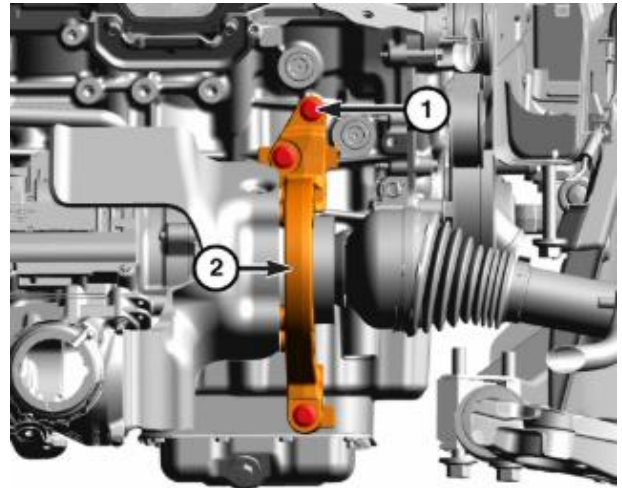

Figure 34 – PTU Support Bracket
13. Remove the fasteners (1) holding the PTU support bracket (2) to the engine block and the oil pan (Figure 34).
14. Separate the PTU support bracket (2) from the PTU.
5. Place the PTU support bracket (2) in position on the PTU (Figure 34).